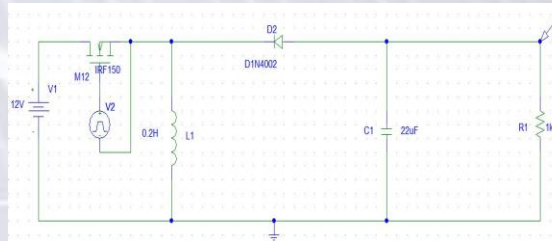

Fig. 1: Buck Boost Converter
- Connecting BJT transistor to input of PV panel, duty cycle pin (From microcontroller) and inductor. Positive potential of diode is connected to positive of inductor and negative potential to capacitor. See Fig. 1.